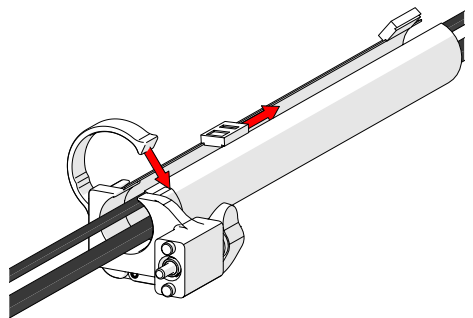

Fig. 244 - Zip to close
2. Follow the cable placement zipping the tube closed (*Fig. 244*).